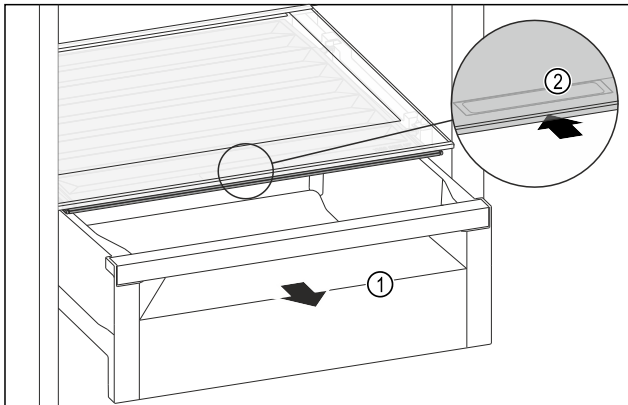

Fig. 156
- ▶ Pull out the drawer Fig. 156 (1).
- ▶ Grasp the recessed grip Fig. 156 (2) on the compartment lid and push the compartment lid backwards at the same time.